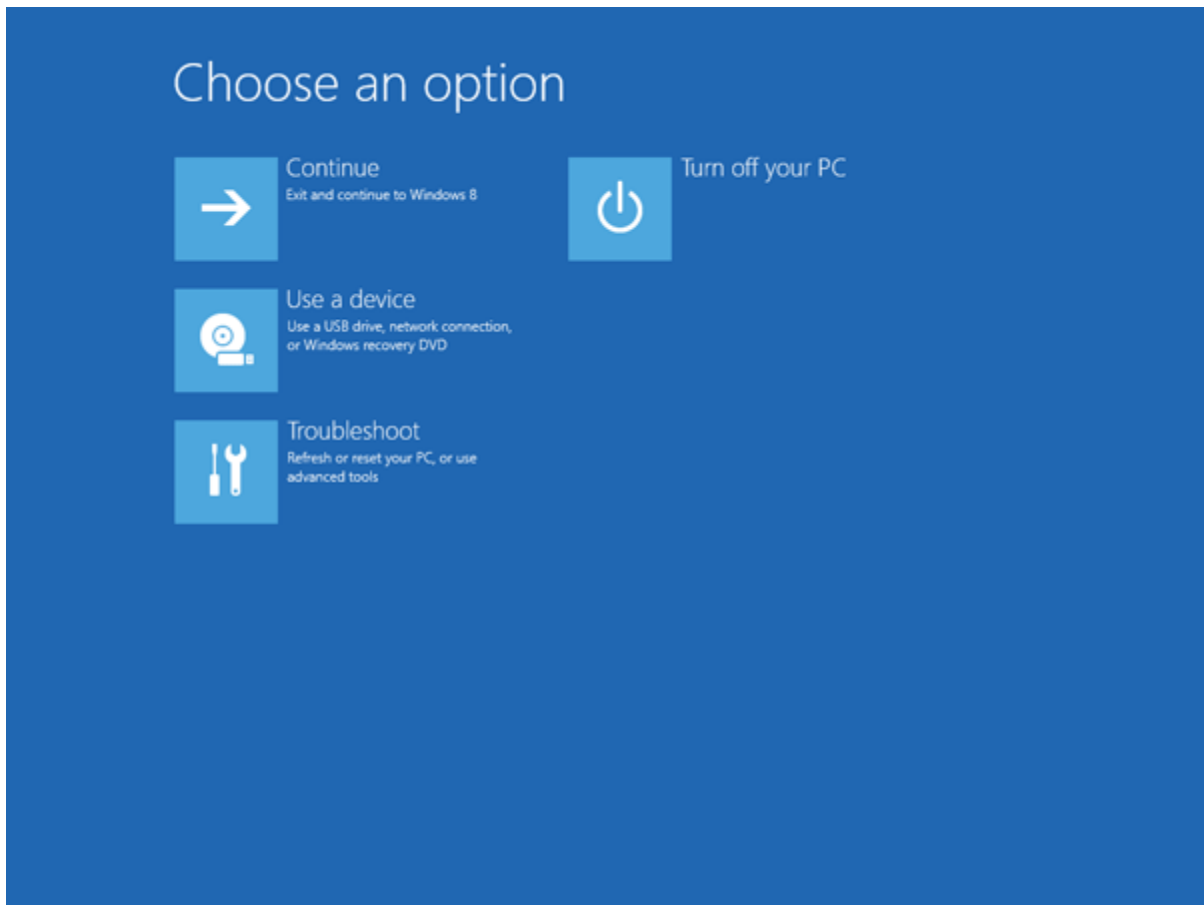

Figure 6.4. Choose the Troubleshoot Option
6. Once the computer reboots, you need to choose the **Troubleshoot** option (Figure 6.4).